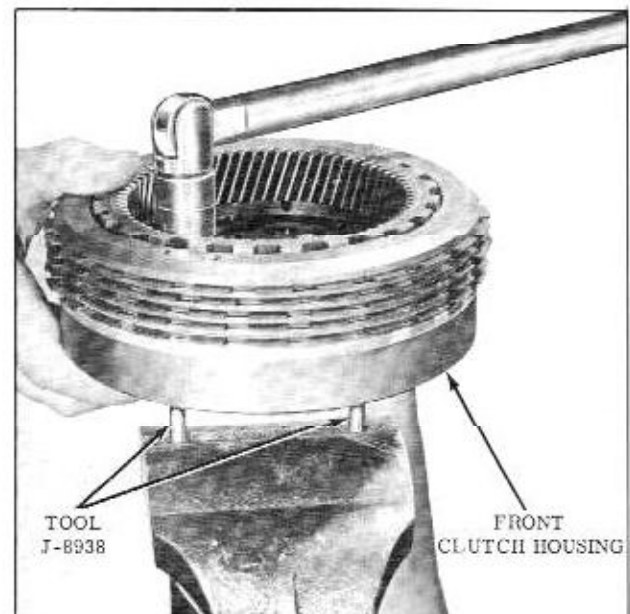

Fig. 3-61 Internal Gear Attaching Bolts
1. Install Tool J-8938, (two studs) in dowel pin holes in clutch housing assembly and secure in vice. (Fig. 3-61)